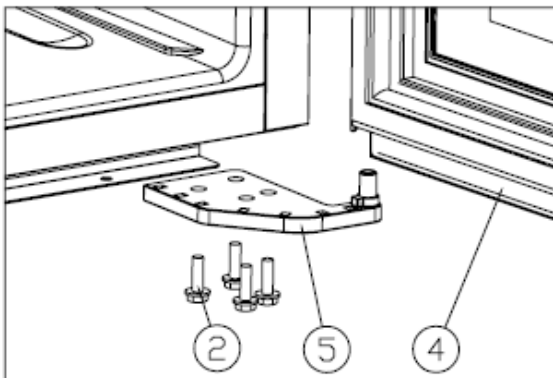

Figure 2
- ✧ Unscrew the M5*16 screws ②, dismantle the right lower hinge ⑤. [Figure 2]